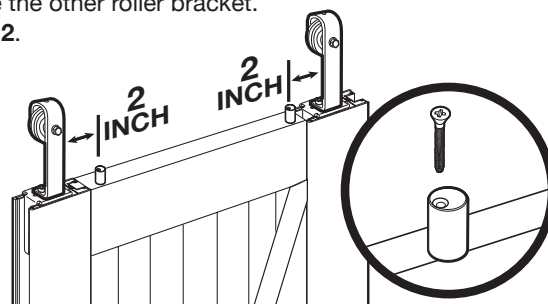

Figure 12
Once the Roller brackets have been secured and the finishing strips in place, it is important to install the Safety spacers (W). These spacers help to protect the door from being bumped off of the track. With the door laying flat in a safe and secure position, place one of the two spacers approximately 2" to the inside of one of the roller brackets. Place slightly off center towards the front of the door. Using a drill, secure the spacer with the screw provided. Repeat steps to install the second spacer inside the other roller bracket. See Figure 12.
See Figure 12.